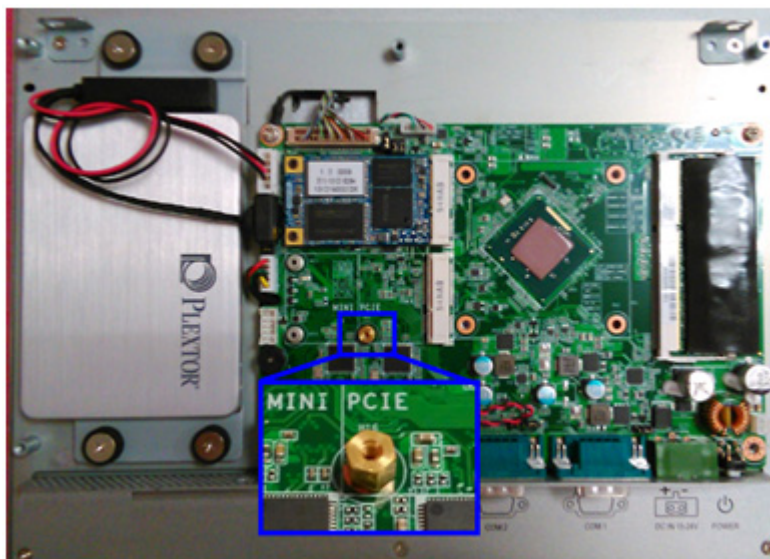

Figure 2.15 Location of retention screw
2. Insert the mini PCIe half size card into socket at an angle, and secure with a screw from the accessory box. And replace the original bracket with holed antenna bracket in accessory box. (See Figure 2.15)